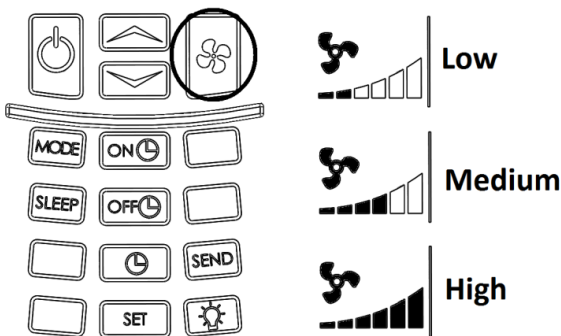
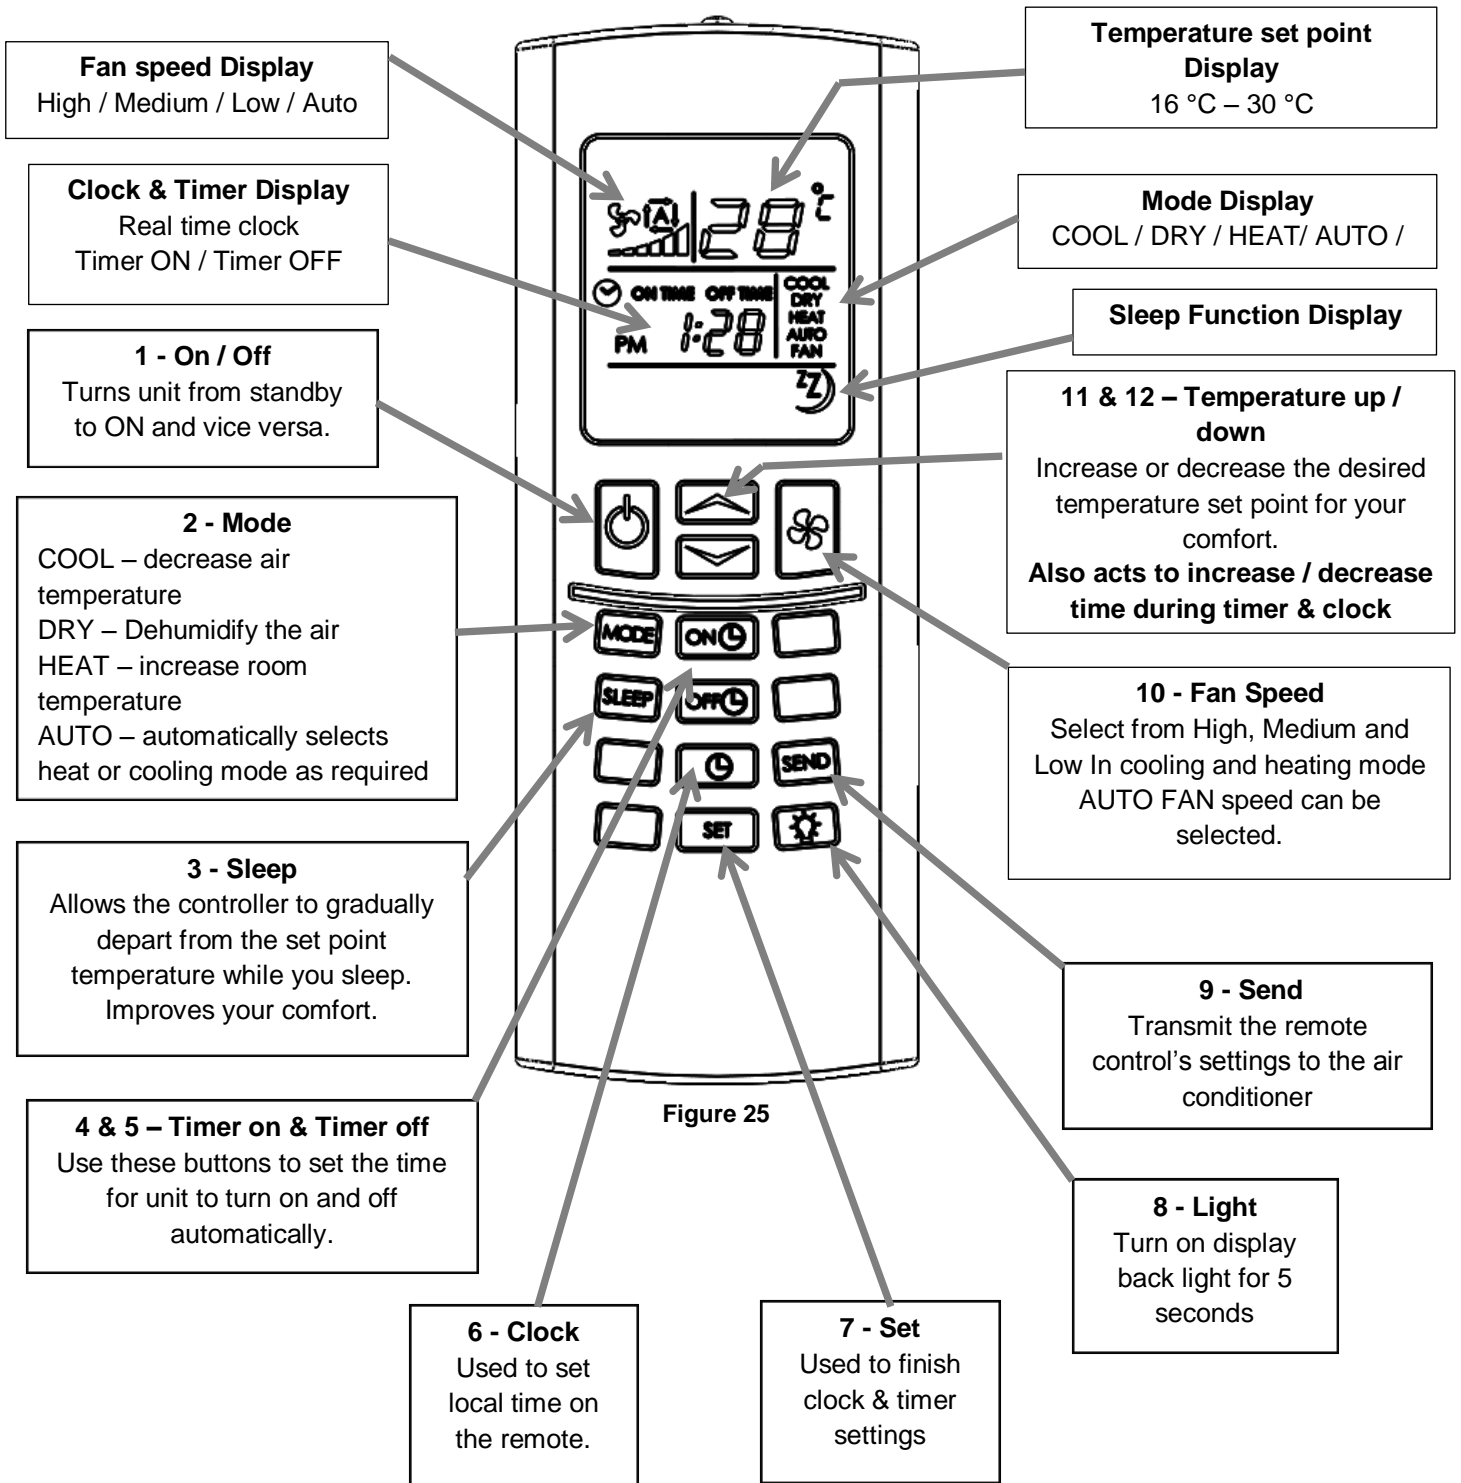

Figure 19 - Change fan speed
Figure 25
- Press the FAN button to cycle through High – Medium – Low fan speeds. Figure 19. Note air flow as the speeds change.
The remote control is used to control all functions of the air conditioner. See Figure 25.
- Press CLOCK (Figure 25– Button #6) Clock icon will flash on display.
- Use Temperature UP / DOWN (Figure 25– Button #11 & 12) to change time.
- When time is correctly displayed press SET (Figure 25 – Button #7)
- Press TIMER ON (Figure 25 – Button #4)
- When time is correctly displayed press SET (Figure 25– Button #7)
- Repeat above process with TIMER OFF (Figure 25– Button #5)
- Turn unit ON (Figure 25– Button #1) (Figure 17)
- Press MODE (Figure 25– Button #2) until COOL is displayed in the Mode Display (Figure 20)
- Press FAN SPEED (Figure 25 – Button #10) until the required speed is selected (Figure 19)